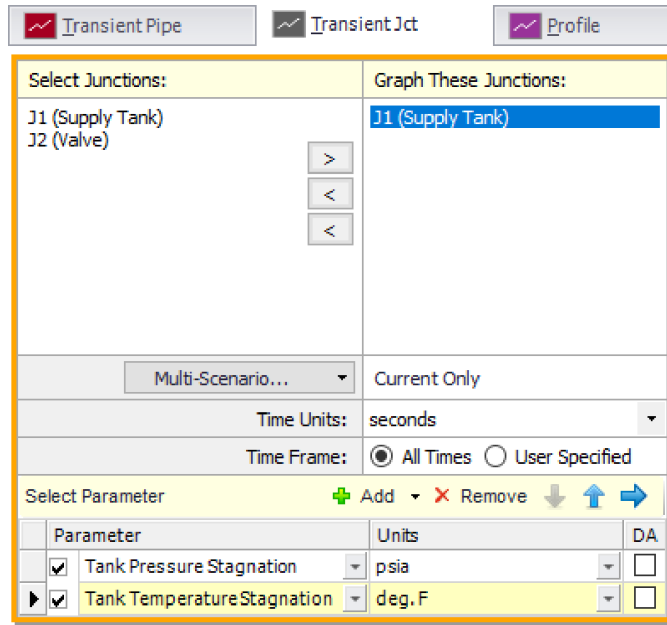

Figure 2.30 Graph Parameters window for the Transient Junction graph
- **Open the "Transient Jct" tab** on the Graph Control tab of the Quick Access Panel (Figure 2.30). Add the J1 (Supply Tank) Junction.